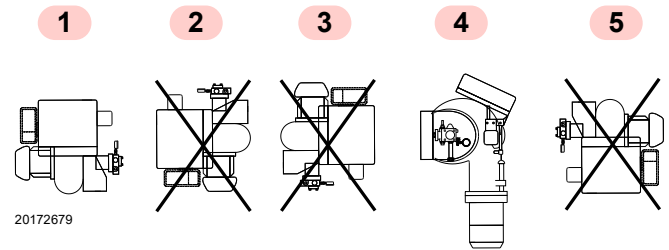

Fig. 8
- The burner is designed to work only in positions 1 and 4 (Fig. 8).